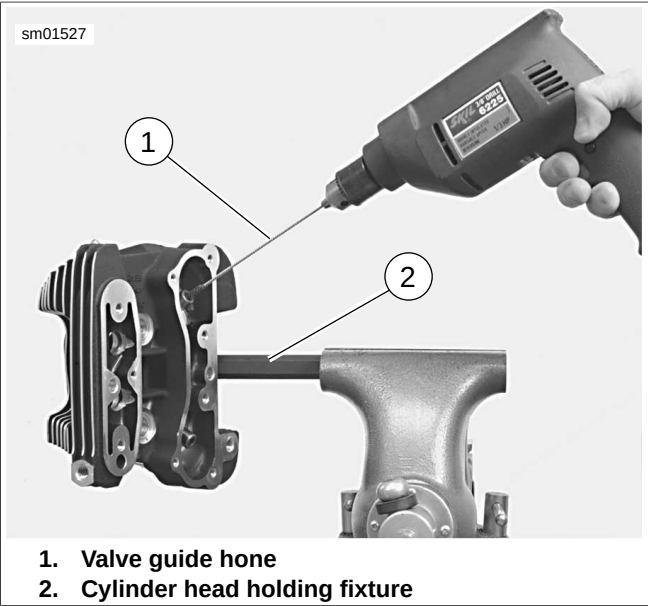

Figure 3-128. Honing Valve Guide Bore
- See Figure 3-128. Obtain the VALVE GUIDE HONE (Part No. B-45525) and REAMER LUBRICANT (Part No. HD-39964).